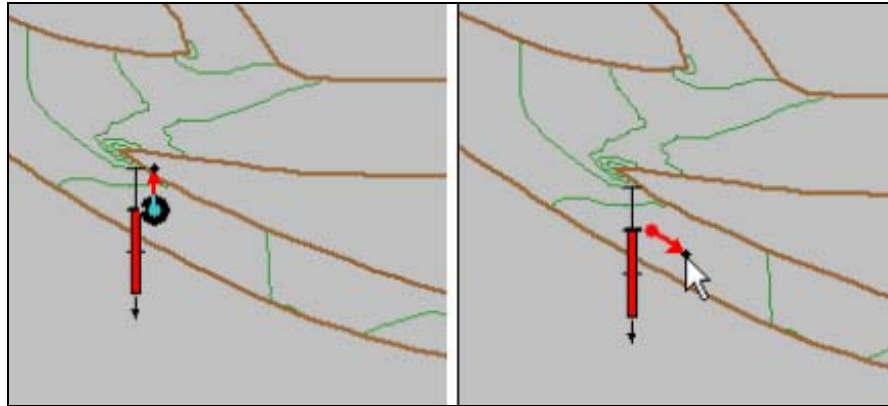

Figure 4-2 "Point 1" with an arrow angle of 0° and then rotated to 120°
3. Zoom in and rotate the point arrow approximately 120° by dragging the black dot at the end of the arrow clockwise. Do not worry if this angle is not exactly 120°. The arrow just needs to be pointing in the general direction the velocity meter was set up in the field. This is usually in the direction of flow. Figure 4-2 shows a close-up of *Point 1* with the arrow pointing up (0° angle) and then the position of the arrow at an angle of approximately 120°.